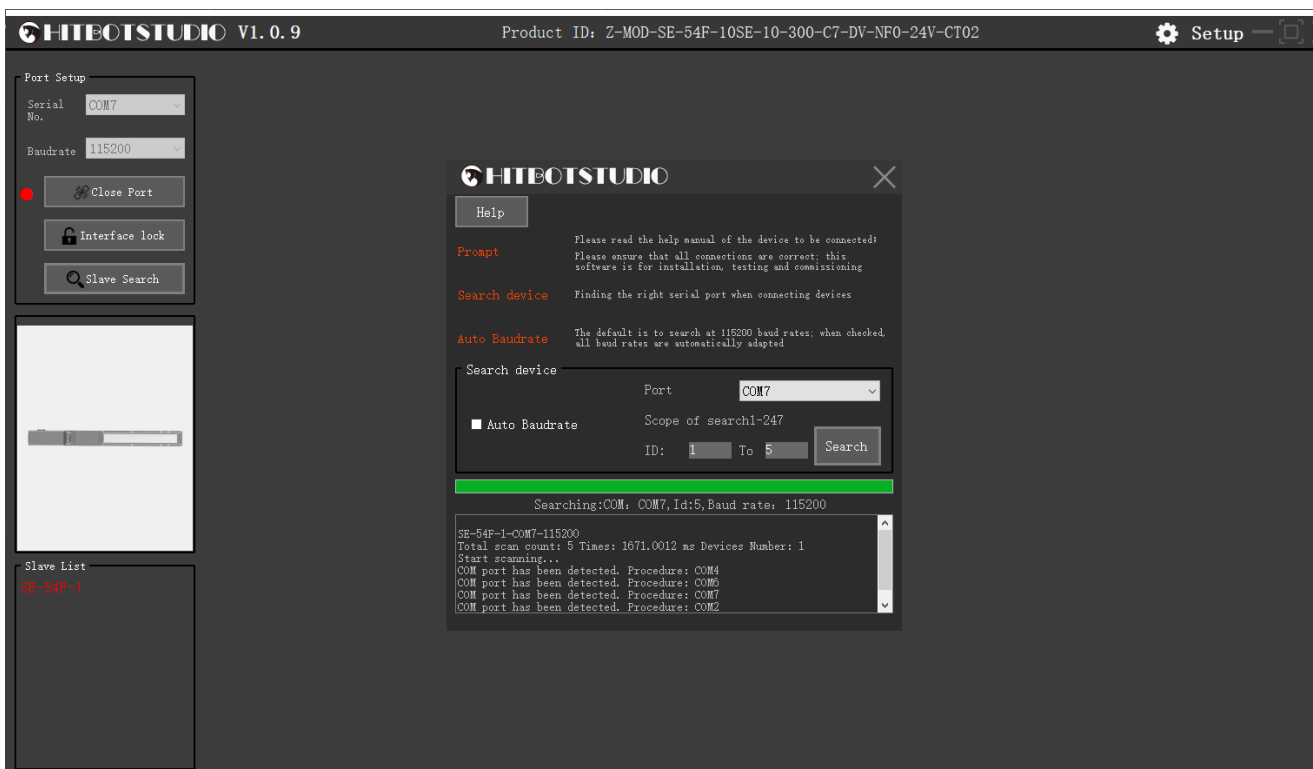

Figure 3-22 (Interface of the Actuator Device Found)
(1) After finding the actuator device in the device search connection module, users can click on the corresponding device in the slave list, and it will enter the actuator module interface. Figure 3-22 shows the interface when the actuator device is found.